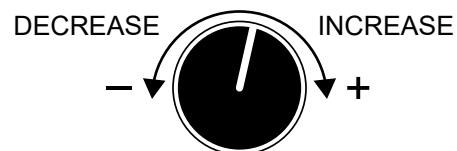

Figure 11. Voltage Regulator
7. If the voltage is not within the specified tolerance, use the **voltage regulator** (Figure 11) to increase or decrease the desired voltage.